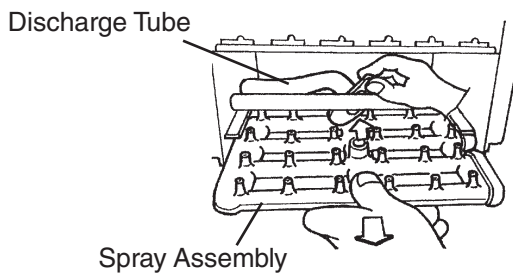

**Fig. 39**
- 5) Spread out the tabs to unlock the water tank, then slide it out. See Fig. 39.